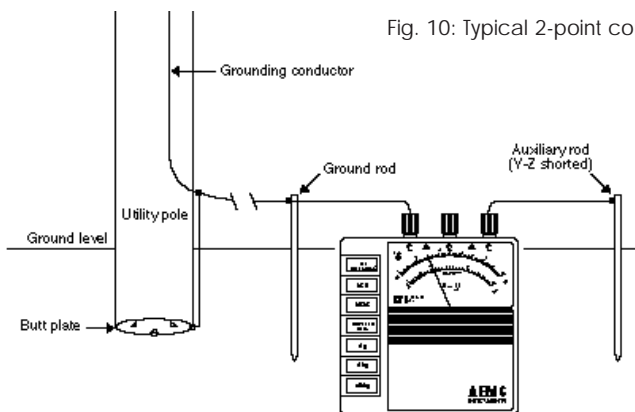

Fig. 10: Typical 2-point connection
After completing “preparation for measurement,” attach ground (X), potential (Y) and current (Z) as indicated in Figure 10. Depress function button “SIMPLIFIED/MEAS.” This shorts Y and Z terminals internally to establish a two-point measurement. Then select an appropriate ohm range button ($\times 1\Omega$, $\times 10\Omega$ and $\times 100\Omega$). Read the ohm scale directly, then multiply by the ohm range selected.